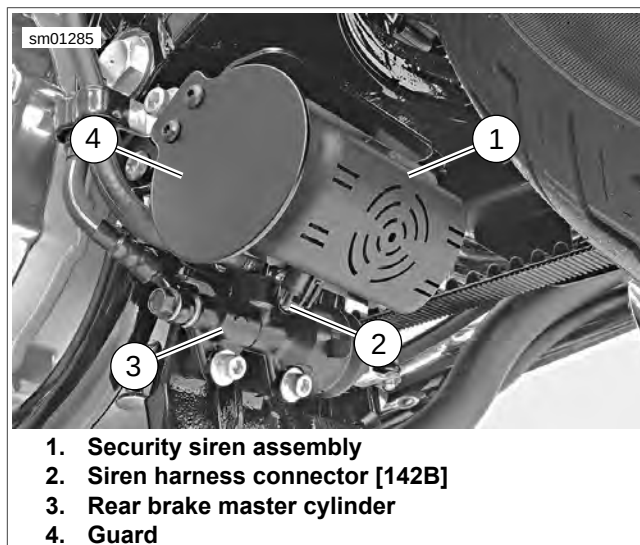
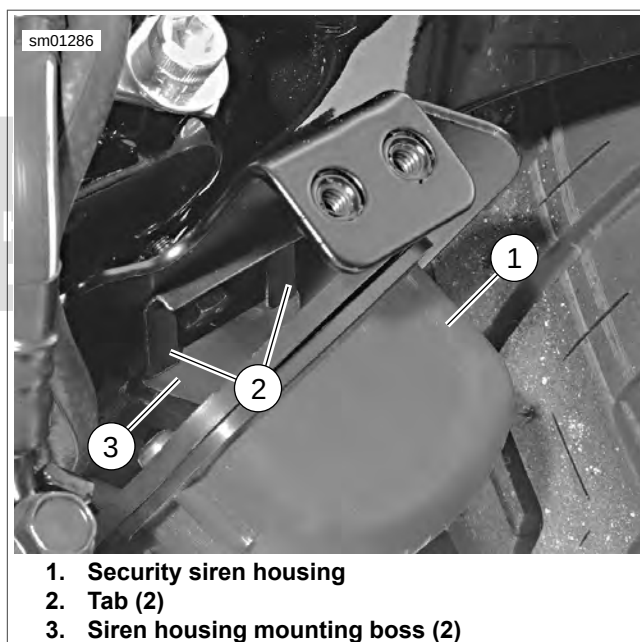

Figure 6-126. Security Siren
Figure 6-127. Security Siren Mount (guard removed for clarity)
1. See Figure 6-126. Disarm security system. While system is disarmed, unplug siren harness connector [142B] (2) from siren assembly (1).
2. See Figure 6-127. Gently pry up on two tabs (2) while pulling siren housing (1) toward the left side of the motor-cycle. Remove siren.
1. See Figure 6-127. Position siren (1) in mounting bracket so that mounting bosses (3) align with mounting clips in bracket and connector socket [142A] faces rear master cylinder.
2. Slide siren housing to the right until tabs (2) lock siren in place.
3. See Figure 6-126. Plug harness connector [142B] (2) into siren connector socket [142A].